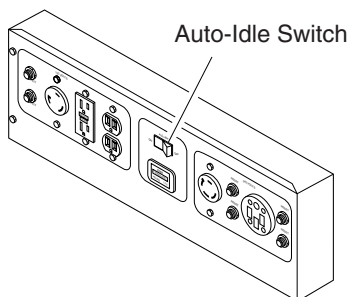

Figure 26 - Control Panel
1. If engine is cold, turn the Auto-Idle switch OFF (see Figure 26).
Note: The 250 Volt/50 Amp receptacle is not connected through the Auto-Idle circuit. The Auto-Idle switch must be turned off to get full power out of this receptacle (see Figure 26).